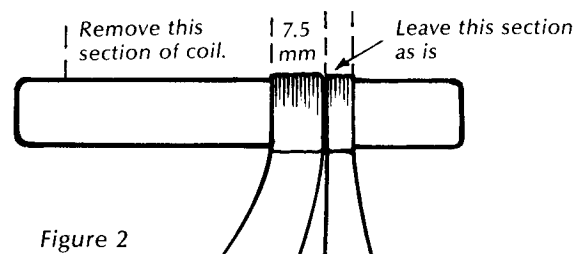

Figure 2
- (1) Build the 'IC radio' (project 14 modified for 9V operation.) Do not connect the ferrite rod antenna yet – it must first be modified to cover the bands we require.
- (2) Most of the longer winding on the ferrite rod must be removed. This is normally coloured pink, but need not necessarily be so. Carefully scrape away the glue holding the end of the winding in place and unwind the coil until just 7.5mm of the longest coil remains. (See figure 2). When the coil has been reduced to the required width, cut off the excess wire leaving a 10cm length of wire coming from the coil.
- (3) Secure the coil with sticky tape and carefully scrape off a centimetre or so of insulation. Connect the coil to the appropriate terminals of the board, as shown in the layout and overlay.
- (4) With the modified coil the radio should tune approximately 2MHz to 6MHz (2MHz at the anti-clockwise end). A long wire antenna as described for the crystal set will probably work best.